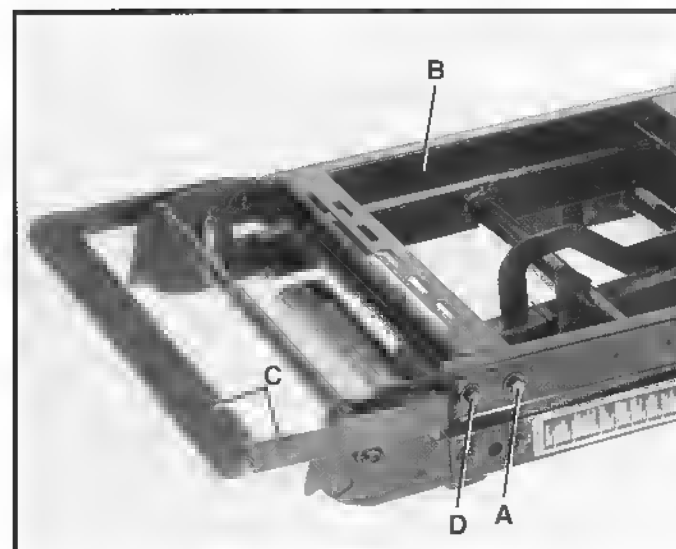

Fig. 6
4. Lower handle assembly (C) Fig. 6, until remaining holes in handle line up with threaded holes in saw stand (B) and fasten handle assembly to saw stand as shown with two screws, lockwashers, and flat washers (D), which were removed in **STEP 3**.